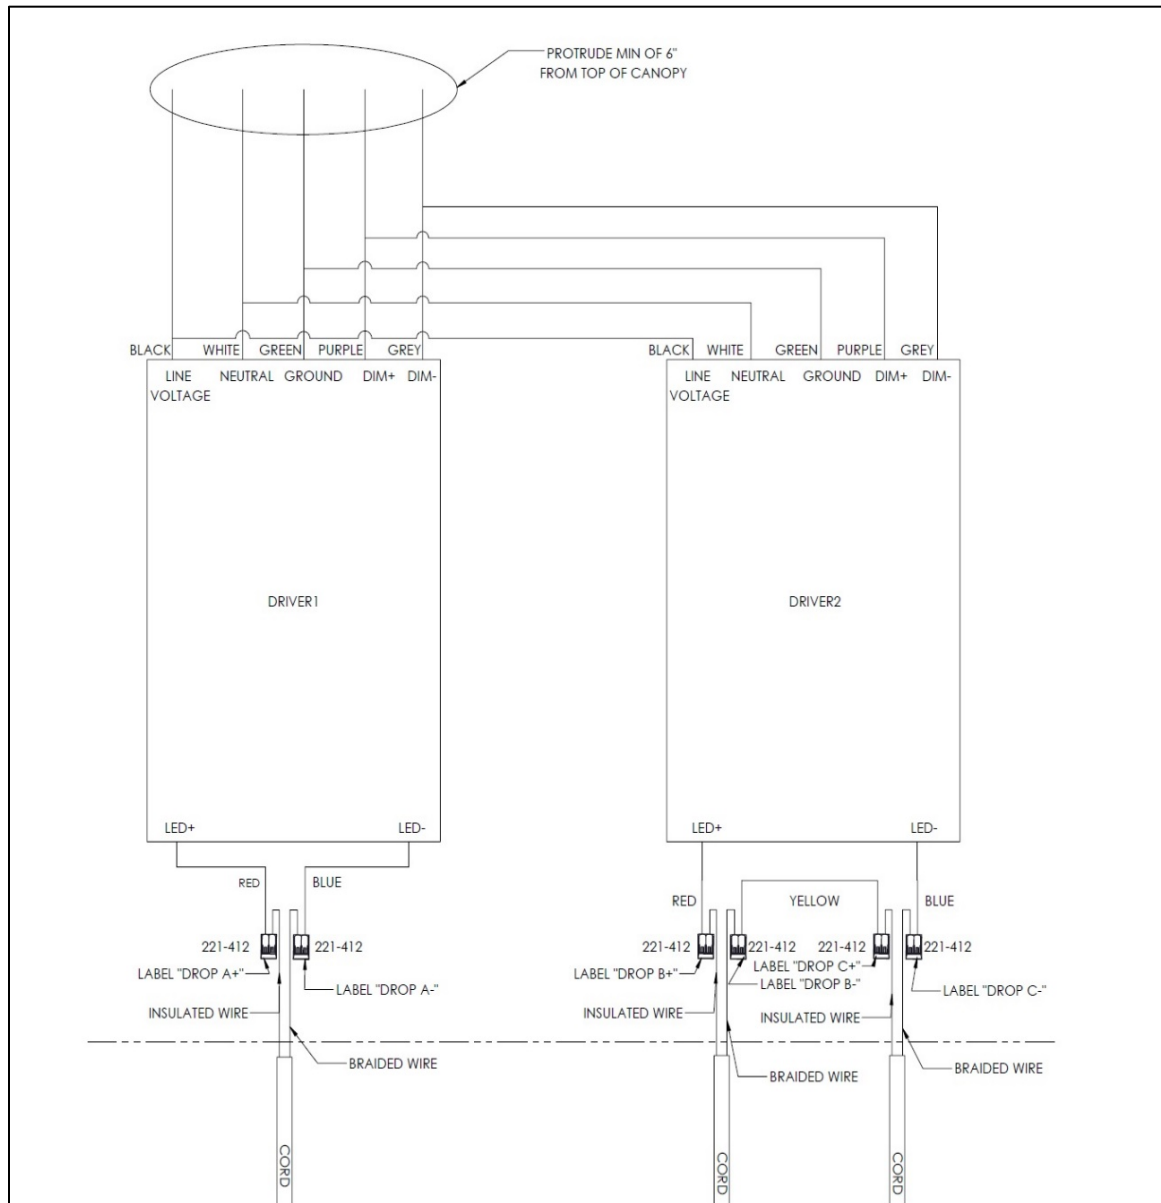

FIG. 11 – WIRE DIAGRAM
6. Connect the wires from the FIXTURE CORD to the drivers. Make all wire connections in accordance with the national electrical code and applicable local and state codes. See wire diagram shown in FIG. 11. instructions on how to shorten/install the cord on page 7.
8. Connect building supply wires to the black, white and green wires in the canopy. Make all wire connect in accordance to the national electric code and applicable local and state codes. See WIRE DIAGRAM and WIRE TABLE shown in FIG. 11 and FIG. 12.